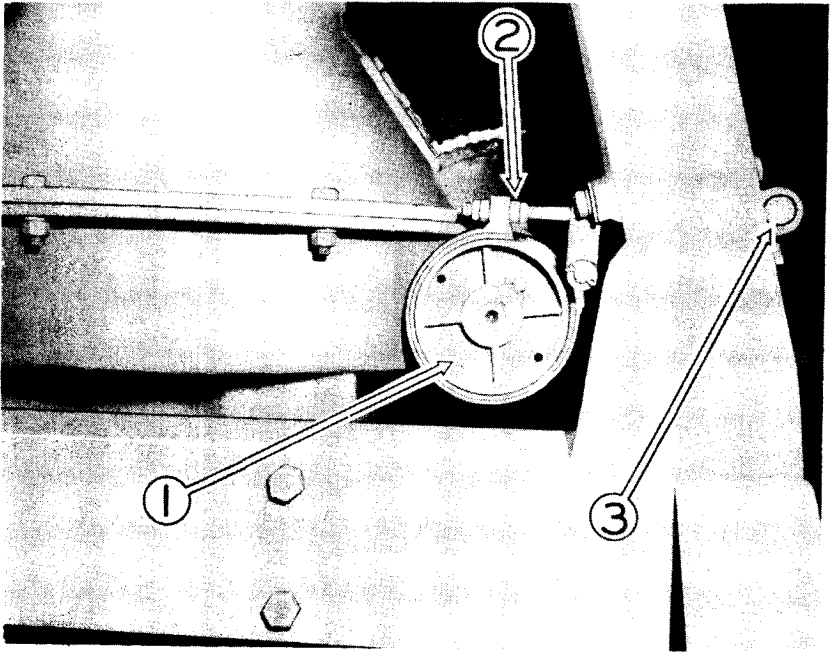

Figure 46 Mast Worm Shaft Brake
Observe Figure 46. The linkage to plunger (3) should release the brake when the boom swing control lever is pushed forward or pulled toward the operator. Check the position of the yoke ends on the control links to determine that the plunger releases the brake upon clutch engagement. The brake band should allow only enough clearance to permit the flange (1) to turn freely when the brake is released. To adjust the band, loosen and reset the jam nuts on the adjustment bolt (2) allowing approximately 1/32" clearance between the flange and brake lining when the brake is released.